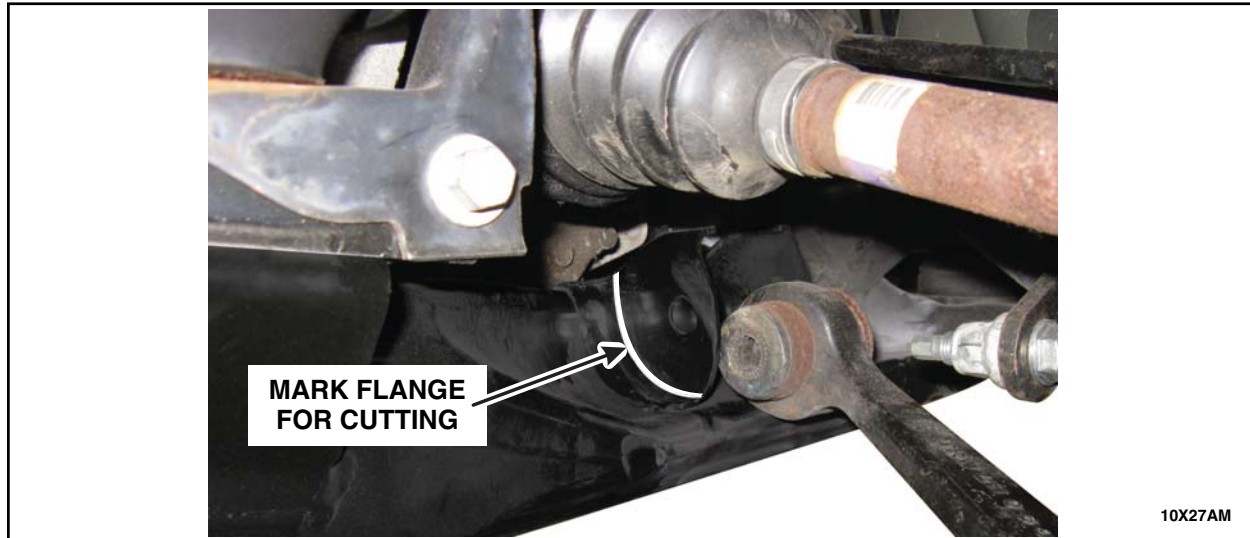

FIGURE 1
1. Remove the LCA and mark the locations of the areas to be cut with a paint pen or marker. The cuts must be between 5 mm (0.20 in) to 8 mm (0.31 in) from the flange weld. See Figure 1.